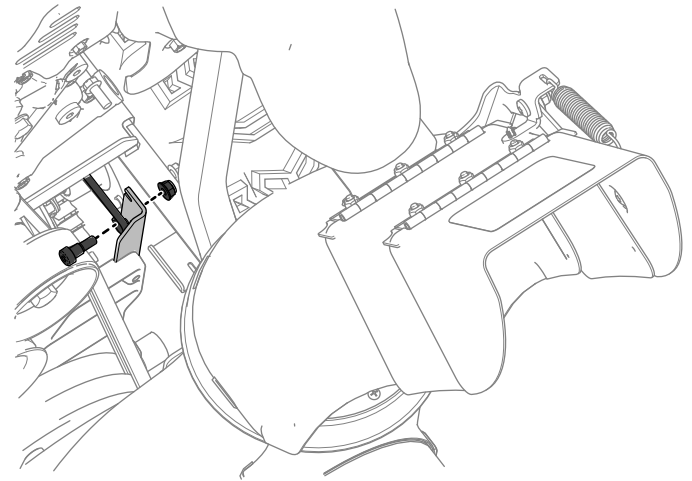

**Figure 9**
2. Connect the one end of the rod to the new traction-cable bracket using a bolt and nut included with the kit as shown in Figure 9.